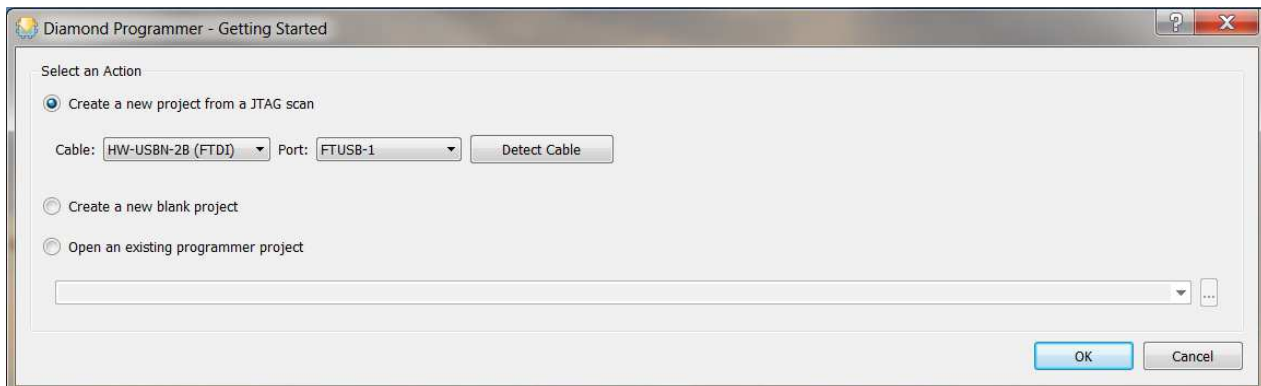

Figure 5.1. Diamond Programmer – Getting Started
2. Open the Lattice Diamond Programmer tool version 3.8 or later. The window shown in Figure 5.1 appears.